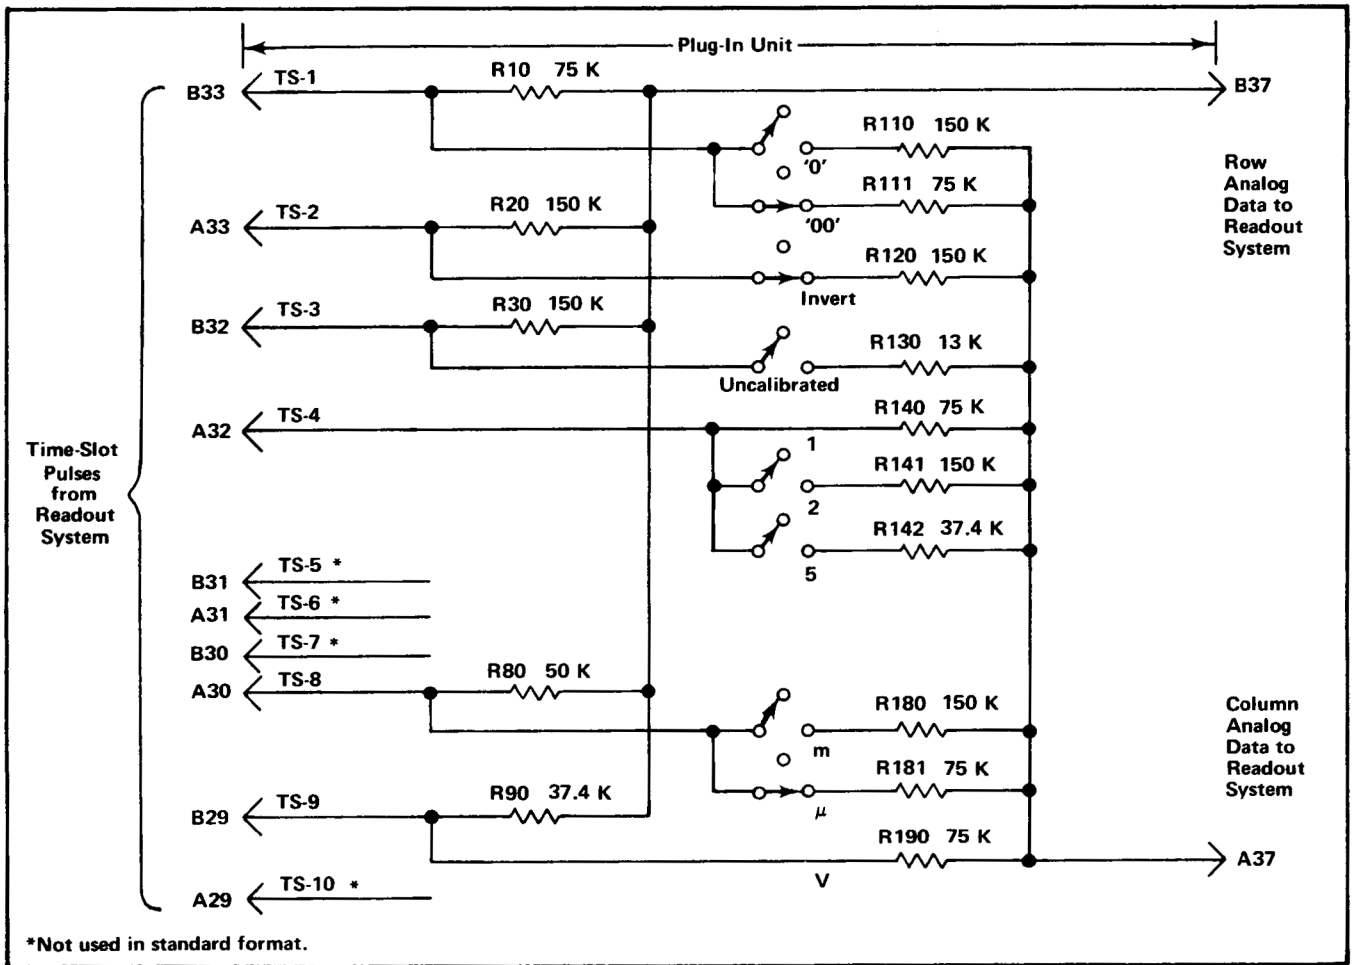
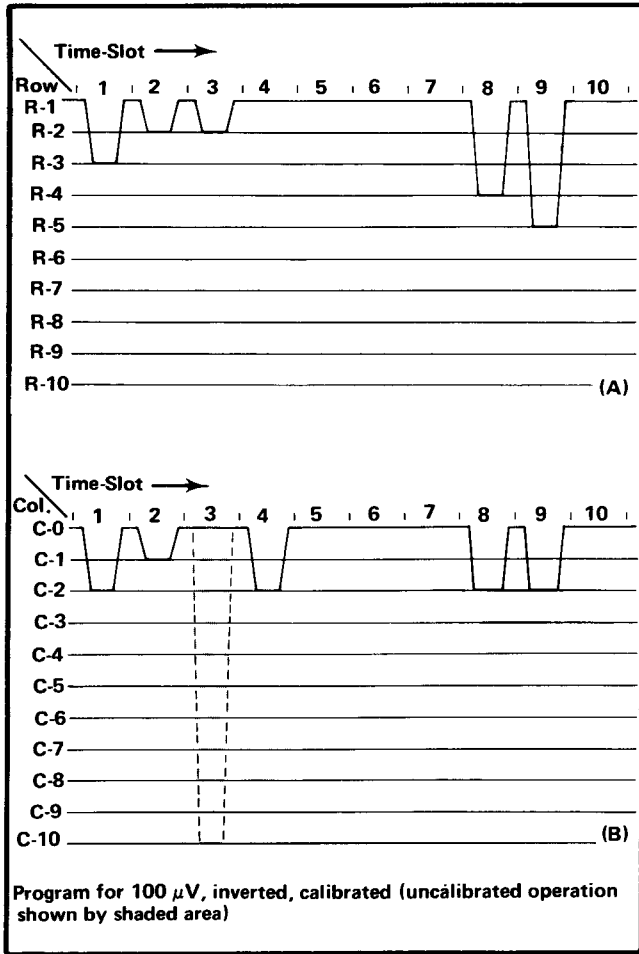

Fig. 3-33. Typical encoding scheme for voltage-sensing amplifier plug-in unit. Coding shown for deflection factor of 100 microvolts.
Fig. 3-34. Idealized current waveforms of: (A) Row analog data, (B) Column analog data.
Data is conveyed from the plug-in units to the Readout System in the form of an analog code having up to 11 current levels (from zero to one milliampere in 100 microampere steps). The characters which can be selected by the encoded data are shown on the Character Selection Matrix (see Fig. 3-26). Each character requires two currents to define it; these currents are identified as the column current and the row current which correspond to the column and row of the matrix. The column and row data is encoded by resistive programming in the plug-in units. Fig. 3-33 shows a typical encoding scheme for a voltage-sensing amplifier plug-in unit. Notice that the 10 time-slot (TS) pulses produced by the Time-Slot Counter stage are connected to the plug-in unit. However, time-slots 5, 6, 7, and 10 are not used by the plug-in unit to encode data when using the Standard Readout Format (see Table 3-1 for Standard Readout Format). The amplitude of the time-slot pulses is exactly  $-15$  volts as determined by the Timer stage. Therefore, the resultant output current from the plug-in units can be accurately controlled by the programming resistors in the plug-in units.
For example, in Fig. 3-33, resistors R10 through R90 control the row analog data which is connected back to the Readout System. These resistors are of fixed value and define the format in which the information will be presented by the Readout System. Fig. 3-34A shows an idealized output current waveform of row analog data which results from the 10 time-slot pulses. Each of the steps of current shown in these waveforms corresponds to 100 microamperes of current. The row numbers on the left-hand side of the waveform correspond to the rows in the Character Selection Matrix shown in Fig. 3-26. The row analog data is connected back to the Readout System via terminal B37 of the plug-in interface.
The Column analog data is defined by resistors R110 through R190. The program resistors are connected to the time-slot lines by switch closures to encode the desired data. The data as encoded by the circuit shown in Fig. 3-33 indicates a 100 microvolt sensitivity with the display inverted and calibrated vertical deflection factors. This results in the idealized output current waveforms shown in Fig. 3-34 at the column analog data output, terminal A37 of the plug-in interface. Resistor R111, connected between time-slot 1 and the column analog data output, encodes two units of current during time-slot 1. Referring to the
connectors of vertical plug-in units. A special coding ring around the input connector of the plug-in unit senses the attenuation ratio of the probe (with readout-coded probes only). The probe contains a resistor which results in additional column current. For example, if a 10X attenuator probe is connected to a plug-in with the coding for 100 microvolts as shown in Fig. 3-33, an additional unit of current is added to the column analog data during time-slot 1. Since two units of current were encoded by R111 (see Fig. 3-33), this additional current results in a total of three units of column analog current during this time-slot. Referring to the Character Selection Matrix, three units of column current along with the two units of row current encoded by R10 indicates that the prefix should be reduced. Since this instruction occurs in the same time-slot which previously indicated that two zeros should be added to the display and only one instruction can be encoded during a time-slot, the zeros do not appear in the display. The CRT readout will now be changed to 1 mV (readout) program produced by plug-in same as for previous example.
Finally, memory C is interrogated during time-slot 8 to obtain information on whether the prefix should be reduced or left at the value which was encoded. If data has been encoded which calls for a reduction in prefix, a negative-going output level is produced at pin 7. This negative level subtracts one unit of column current from the data at the input to the Column Decoder. Notice on the Character Selection Matrix of Fig. 3-26 that a reduction of one column when row 4 is programmed results in a one unit reduction of the prefix. For example, with the 100  $\mu\text{V}$  program shown in Fig. 3-33, if the data received from the plug-in called for a reduction in prefix, the CRT readout would be changed to 1 mV (zeros deleted by program; see Encoding the Data).